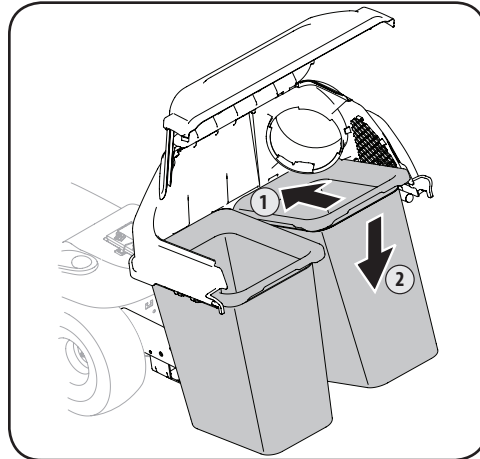

Figure 4-17
- Install both grass bag assemblies, with the tight mesh sides facing forward, onto the bag support brackets by inserting the front edge in first, as shown in Figure 4-17, and setting the back edge down until it fits into the assembly.